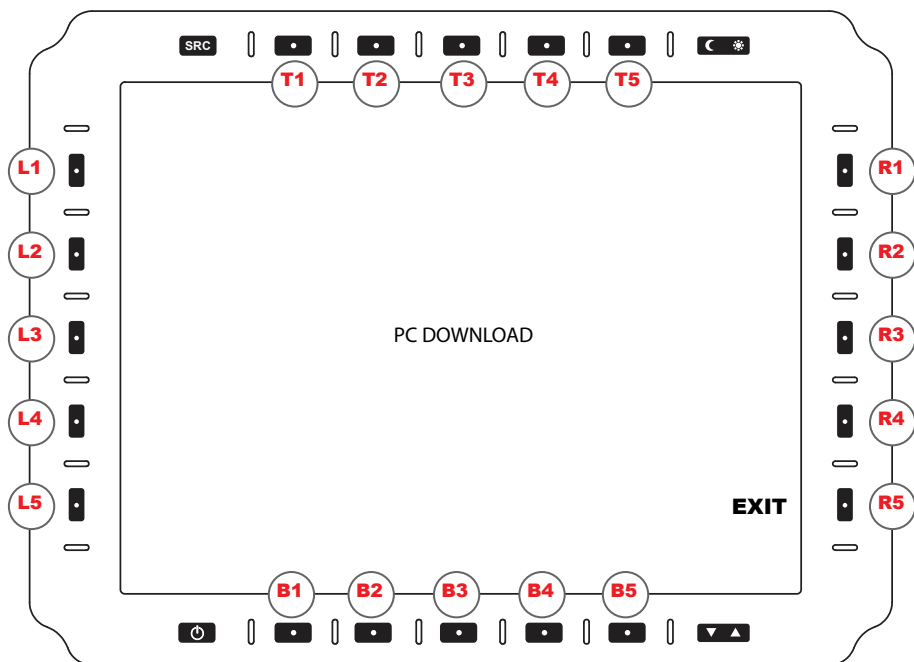

Figure 12
This is the Screenshot during USB-to-PC download activity (Figure 12).
- Screen reads PC Download Menu (above, Figure 12)